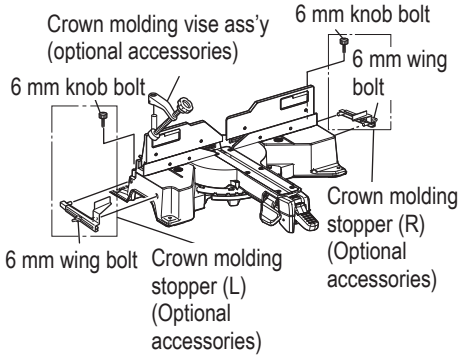

Fig. 43-a
- (1) Crown molding Stopper (L) and (R) (optional accessories) allow easier cuts of crown molding without tilting the saw blade. Install them in the base both-sides side to be shown in Fig. 43-a. After inserting Tighten the 6mm knob bolts to secure the crown molding Stoppers.